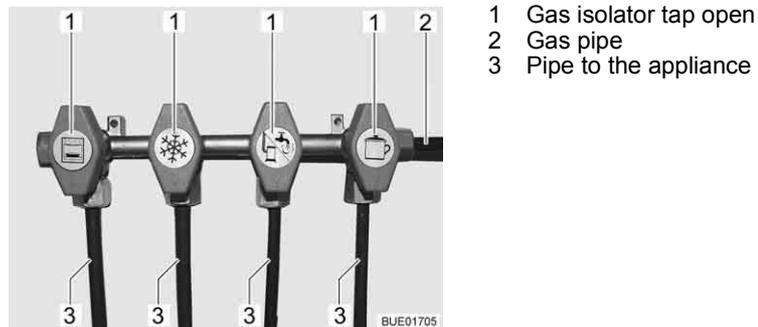

Fig. 152 Gas isolator taps position (example)
- Position the gas isolator tap of the corresponding gas device parallel (Fig. 152,1) to the pipe (Fig. 152,3) leading to the device.